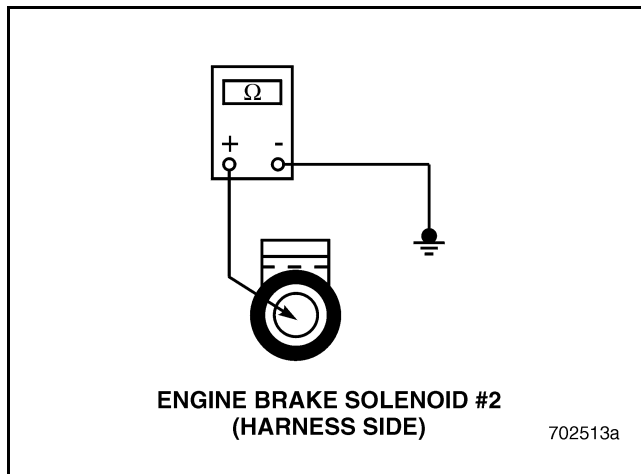

Figure 429
3. Check for continuity between the terminal of Engine Brake Solenoid #2 and a good ground (see Figure 429).